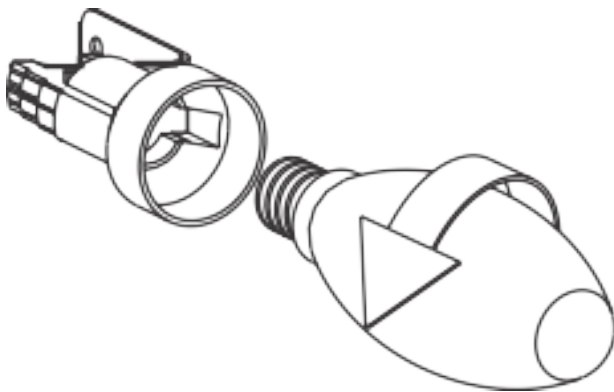

Fig.15: Lamp Replacement
2. Remove the faulty bulb and replace with a new one with the same rating. (Fig. 15)